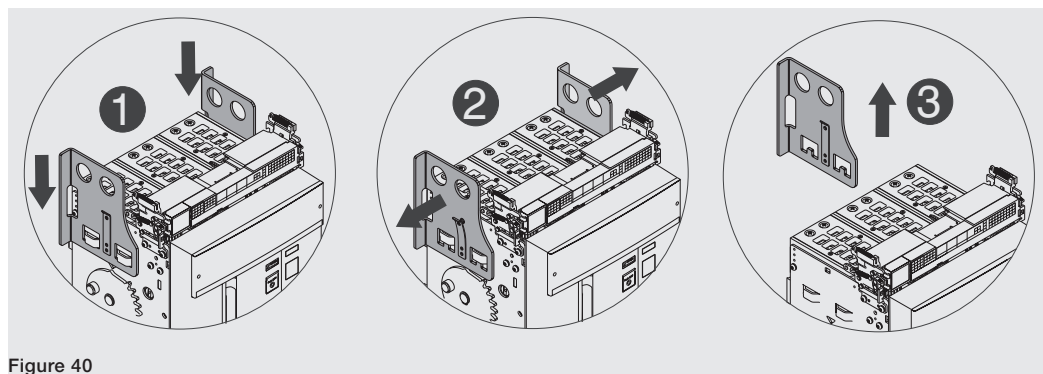

Figure 40
4. Unlatch the tongue and remove lifting plates from the moving part. See Figure 40.